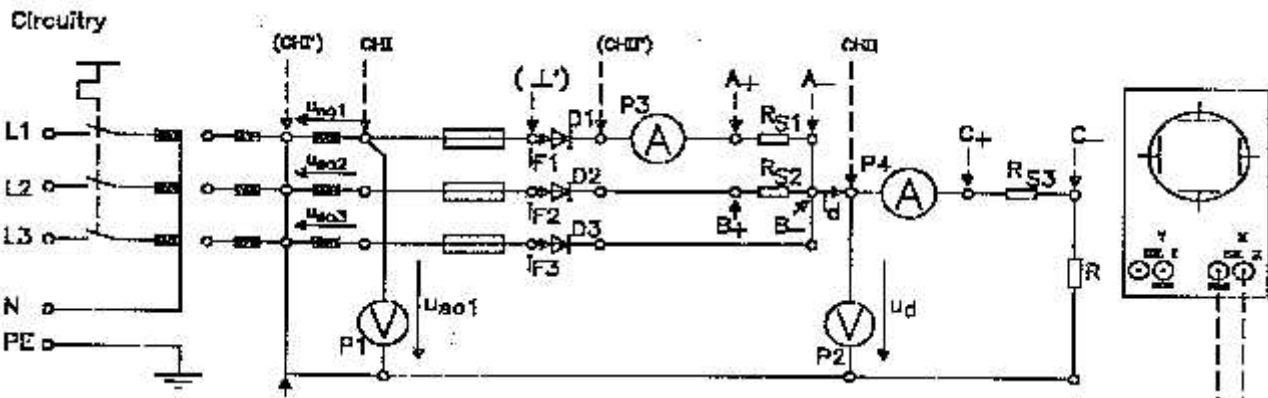

Figure 1. Three pulse mid-point rectifier
1. Connect the power circuit as shown in Figure 1, while using the supply voltage of 90 V and a load resistance of 100 .